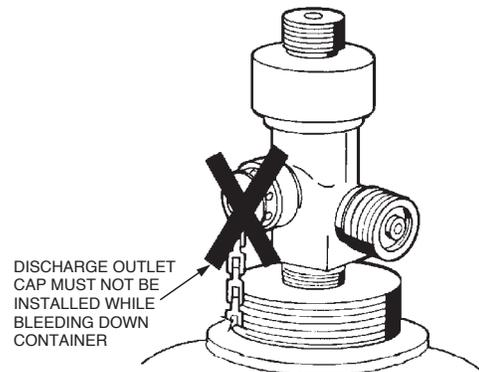

FIGURE 8-3
- b. Make certain discharge outlet cap IS NOT in place on valve outlet. See Figure 8-3.